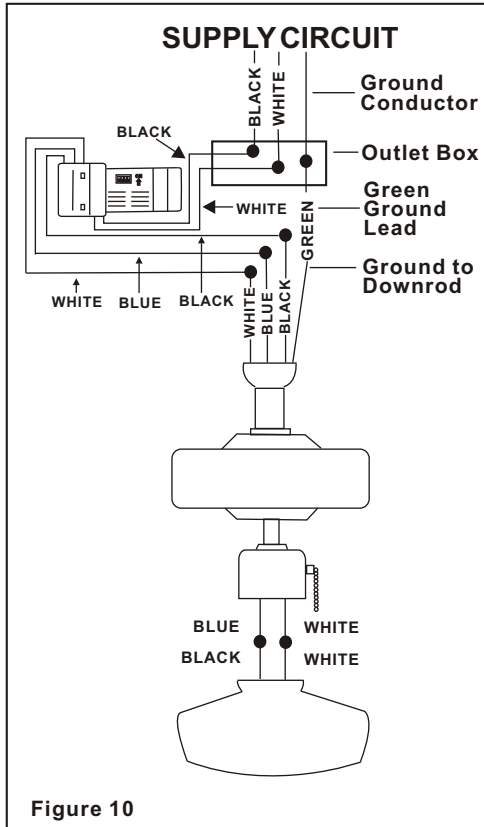

Figure 10
**Step 2.** (Fig. 10) Motor to Receiver Electrical Connections: Connect the Black wire from the fan to Black wire marked "TO MOTOR L". Connect the White wire from the fan to the White wire marked "TO MOTOR N" from the receiver. Connect the Blue wire from the fan to the Blue wire marked "For Light" from the receiver. Secure wire connections with the plastic wire nuts provided.
**Step 3.** (Figure 10) Receiver to House Supply Wires Electrical Connections: Connect the black (hot) wire from the ceiling to the black wire marked "AC in L" from the receiver. Connect the white (neutral) wire from the ceiling to the white wire marked "AC in N" from the Receiver. Secure the wire connections with the plastic wire nuts provided.
**Step 4.** (Figure 10) If your outlet box has a ground wire (green or bare copper) connect it to the fan ground wires; otherwise connect the hanging bracket ground wire to the mounting bracket. Secure the wire connection with a plastic nut provided. After connecting the wires spread them apart so that the green